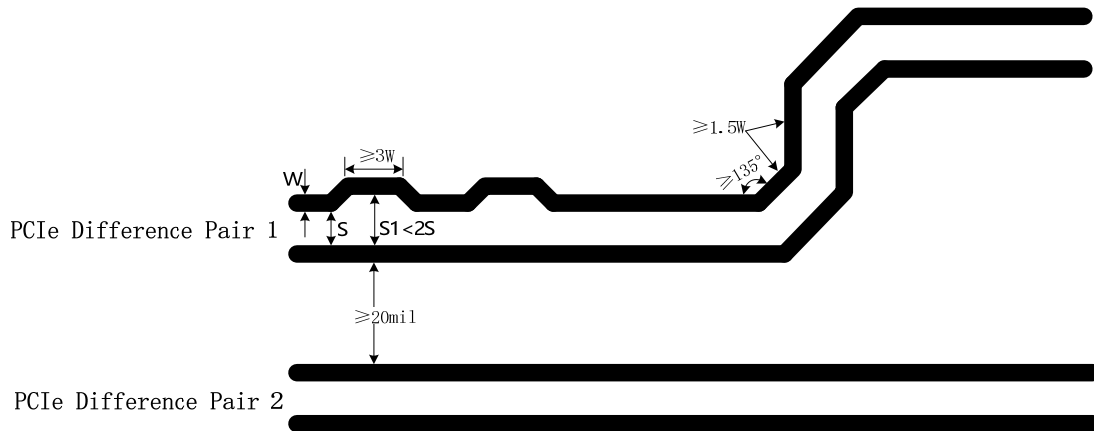

Figure 3-12 Requirement of PCIe Line
- Try to avoid bended lines and avoid introducing common-mode noise in the system, which will influence the signal integrity and EMI of difference pair. As shown in Figure 3-12, the bending angle of all lines should be equal or greater than 135° , the spacing between difference pair lines should be larger than 20mil, and the line caused by bending should be greater than 1.5 times line width at least. When a serpentine line is used for length match with another line, the bended length of each segment shall be at least 3 times the line width ($\geq 3W$). The largest spacing between the bended part of the serpentine line and another one of the differential lines must be less than 2 times the spacing of normal differential lines ($S1 < 2S$);